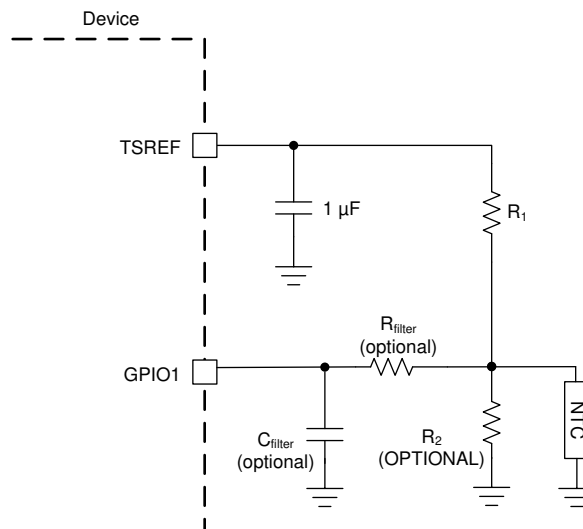

Figure 7-5. Thermistor Connection
Figure 7-5 shows the thermistor circuit when GPIO is enabled for thermistor measurements. MCU ensures TSREF is enabled by setting *CONTROL2[TSREF_EN]* = 1 and settled before taking the measurement value.
- R1 is the pull-up resistor as shown in Figure 7-5 with the assumption the R2 is not used